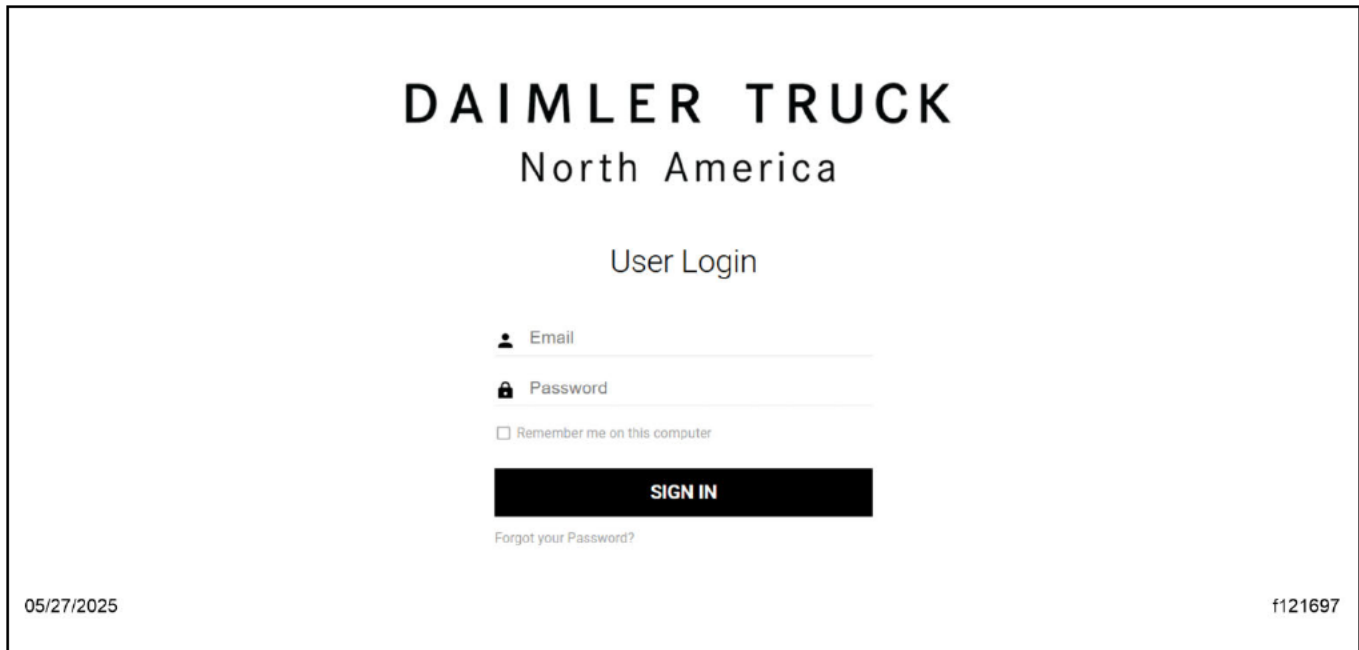

Fig. 3, Chassis Service Information Panel
3. Within the 'Chassis Service Information' panel, select the option '(VECI) for Recall Campaigns F1011/F1015 & Field Service Campaign SF720.' This redirects to an external website. See Fig. 3.